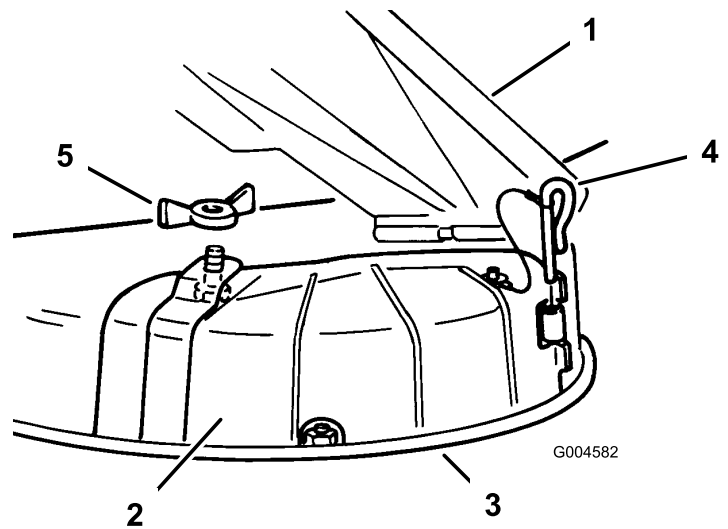

Figure 13
3. Remove the wing nut and bolt securing the cover in place (Figure 13).
4. Remove the hinge pin securing the cover to the deck (Figure 13).
3. Lift the grass deflector and place the discharge cover over the opening onto the lower lip of the mower and slide it into the front hinge (Figure 13).
4. Slide the hinge pin through the hinge (Figure 13).
5. Secure the discharge cover to the mower with the wing nut (Figure 13).